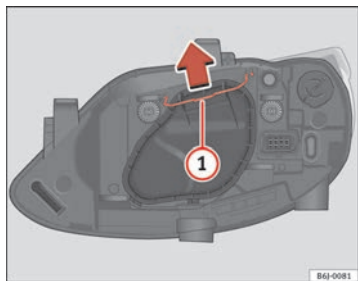

Fig. 146 Dipped beam/main beam, single headlight
- Remove the loop ⇒ fig. 146 ① in the direction of the arrow and remove the cover.
- Move the loop ① ⇒ fig. 146 in the direction of the arrow and remove the cover. ▶